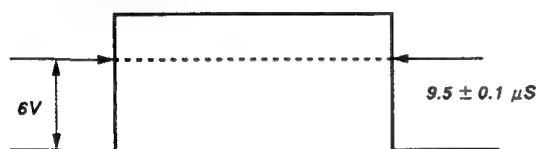

Fig. 2
4. Observe the anode of D516 or TP300 with the oscilloscope and adjust [H-BLK] to obtain the waveform in Fig. 2.